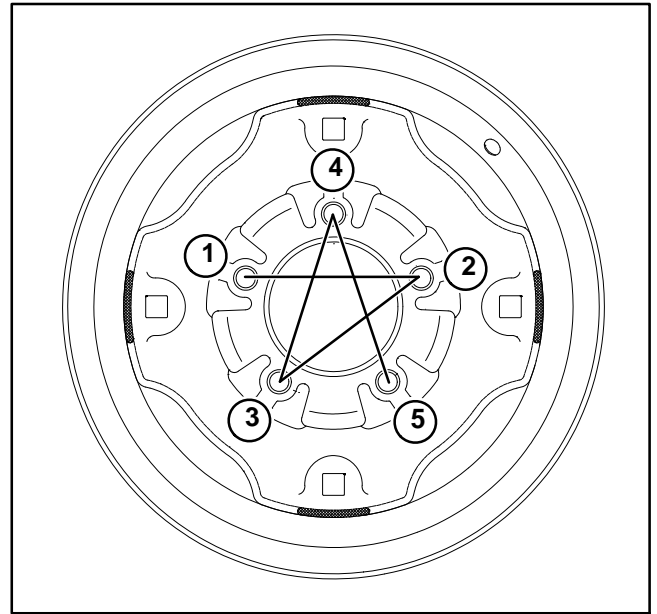

Figure 5
3. Wheel lug nuts should be tightened in a star pattern (Fig. 5) and in two (2) steps. First, tighten all lug nuts to **40 ft-lb (55 N-m)** and then torque all lug nuts to a final torque from **80 to 90 ft-lb (109 to 122 N-m)**.